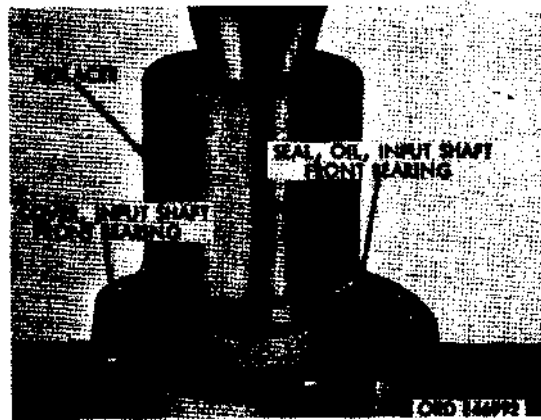

Figure 233. Replacing oil seal in the input shaft front bearing cover
- (c) Install input shaft front bearing oil seal into input shaft front bearing cover. If input shaft front bearing oil seal (fig. 233) has been removed, place bearing cover in arbor press and position front bearing oil seal into recess in cover. Using replacer 5120-795-0152, press seal into cover.